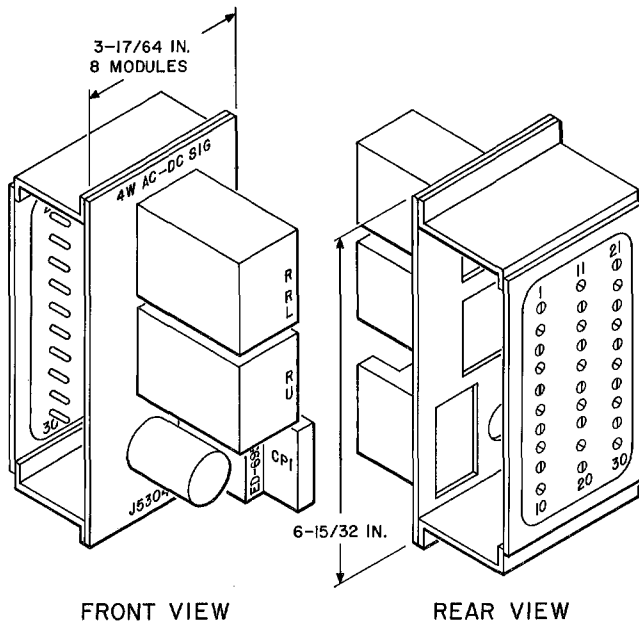

Fig. 7—AC or DC Signaling Relay Unit
2.10 When incoming or outgoing signaling, or both, is provided from a station using -48 volts dc or 20 Hz, the ac or dc signaling relay unit (Fig. 7) is required. This unit detects inward signaling and originates outward signaling over the simplex leads of the 4-wire line. Part of the incoming signal detector is a wired-in circuit pack (CP1) to facilitate maintenance. This unit, in connection with others, provides both audible and visual signaling. One ac or dc signaling relay unit is required for each line terminating unit. The 20 Hz signaling circuit operates from 20 Hz, 80 to 105 volts, over a maximum 1500-ohm loop.